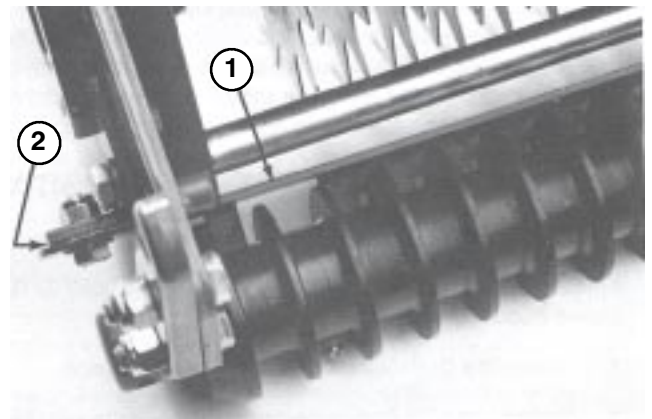

Figure 4
ADJUSTING FRONT ROLLER SCRAPER (Fig. 4)
1. Loosen the (2) capscrews securing front roller scraper to brackets. Slide front roller scraper to ensure the teeth of scraper are centered between the disks of the front wiehle roller (Fig. 4).